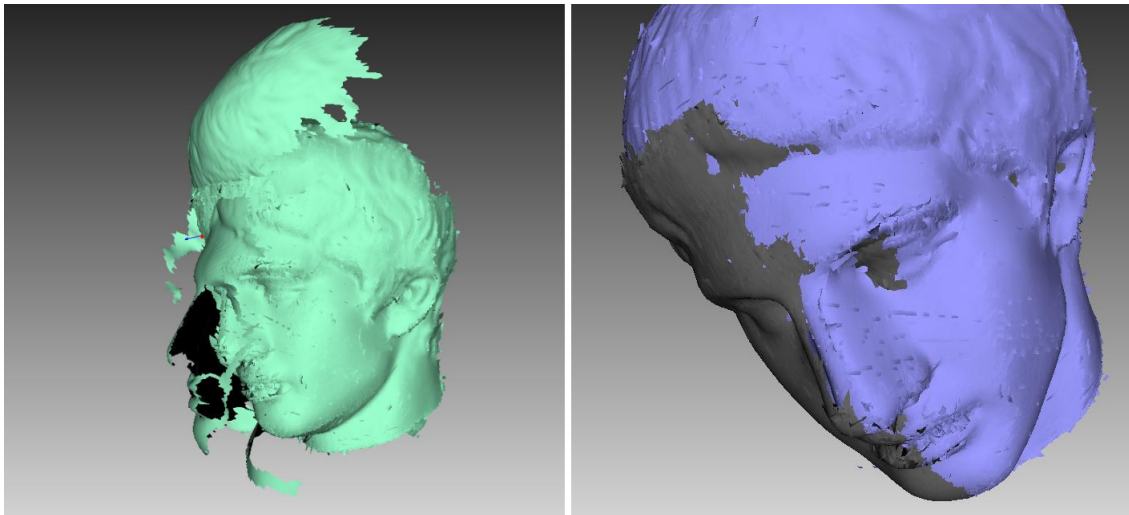

Figure 80: Global-registration errors: wrong settings on left and gap between scans on right.
- After the global-registration algorithm finishes, the frames are in disarray (see Figure 80, left) or the frame positions are unchanged. This error occurs because the application is configured for a different scanner type than the one that captured the data. Change the device type in the application settings (see Algorithm Settings).
- The algorithm has completed successfully, but a gap exists between two or more scans (see Figure 80, right). Select just these scans in the *Workspace* panel and run the global-registration algorithm. If the scans have drawn closer to each other but have failed to align after the algorithm finishes, increase the number of iterations and rerun the algorithm. Repeat this process until you achieve full alignment, then run global registration once again for all data. If you are unable to align several problematic scans, try aligning just two of them, then gradually increase the number of scans until all of them are aligned.